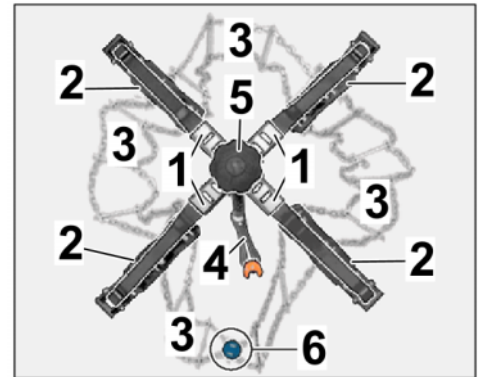

Figure 6
2.2.1 Open spring steel arms with plastic supports on the snow chain and sort out the chain net (⇒ Figure 6).